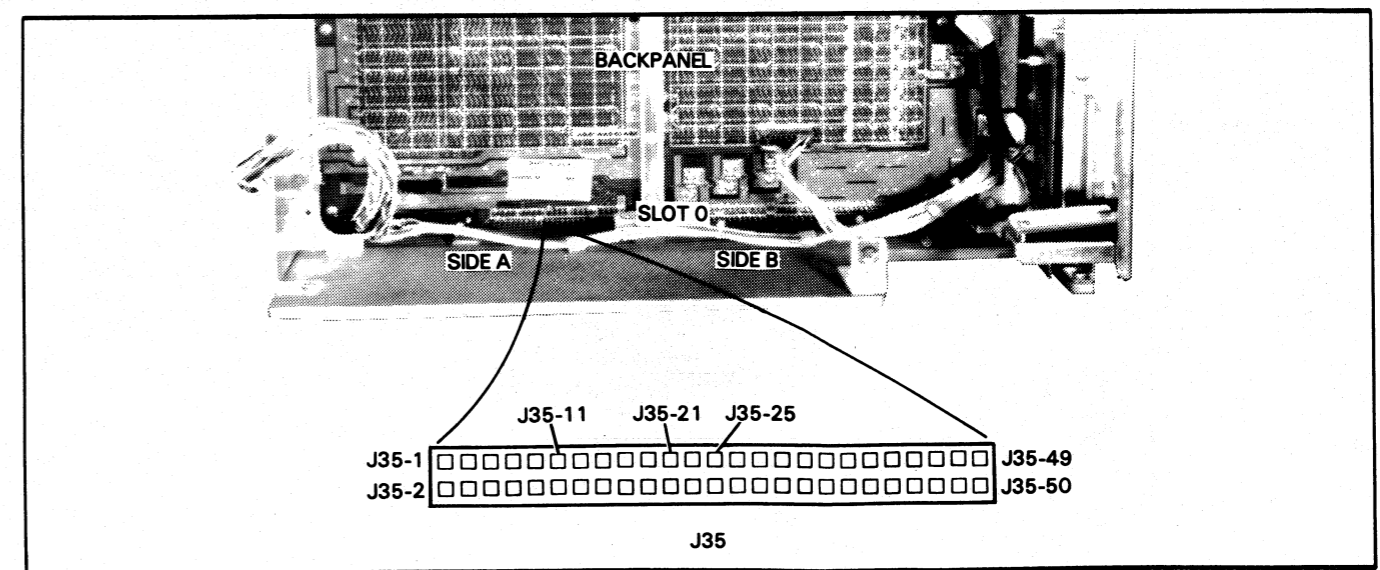

Figure 6.7 Jack 35
4. Short MEMD at J35-21 to GND at J35-1 (see Figure 6.7). Before continuing the checkout, make sure you have shorted the correct pins.
- Check the -11V voltage at J35-25 (see Figure 6.7).
- b. If the light is NOT on, check the $\overline{\text{ONLED-P}}$ voltage at J35-11 (see Figure 6.7).
2. Check the +12 MEM voltage at location J35-3 (see Figure 6.7).